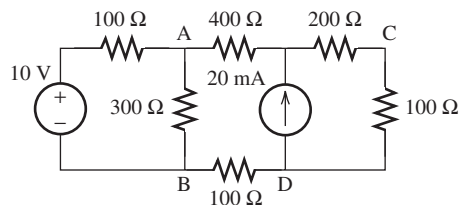

FIGURE P3.33 Circuit for Problem 3.33.
- 3.33** (H) Determine the best choice of node as a reference node for the circuit in Figure P3.33. Then determine the current between B and D.